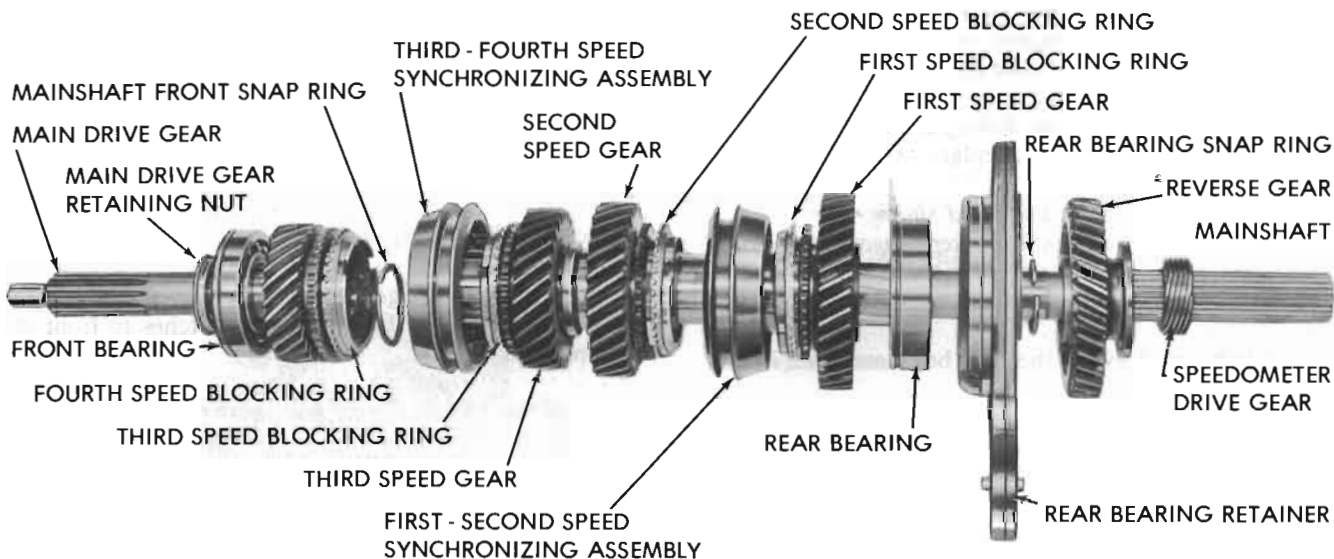

Figure 72-45 - Exploded View of Main Shaft Assembly
A. Disassembly - Refer to Figure 72-45
- c. Place three (3) keys and two springs in position (one on each side of hub) so all three (3) keys are engaged by both springs. Synchronizer springs should be installed so tapered end of each spring falls into the same key in the hub. Slide the sleeve onto the hub aligning the marks made at disassembly.
C. Assembly - Refer to Figure 72-45